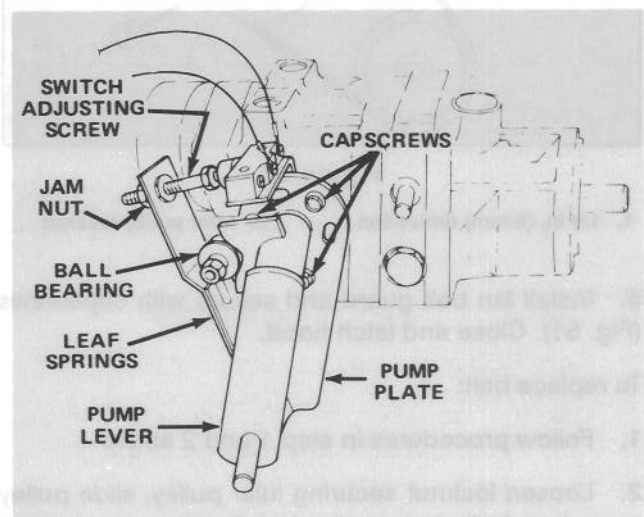

Figure 55
1. Park vehicle on a level surface and turn engine off. Apply the parking brake, tip seat forward, and actuate pump lever (Fig. 55) to insure assembly is properly seated and operating freely. Correct any discrepancy.
6. Because the wheel is rotating, the pump plate must be adjusted. But before adjusting the pump plate, move throttle to SLOW. If wheel is rotating forward, loosen capscrews, and lightly tap bottom of pump plate counterclockwise (Fig. 55). By contrast, tap pump plate clockwise if wheel is rotating backward (Fig. 55). When wheel stops rotating, tighten capscrews holding pump plate against side of transmission. Verify the adjustment with throttle in SLOW and FAST position.
- A. Ball bearing is loose or worn out (Fig. 55).
F. Weak or damaged leaf springs (Fig. 55).
2. Actuate the pump lever (Fig. 55) to insure all parts are operating freely and seated properly.
3. Loosen jam nut. Rotate switch adjusting screw (Fig. 55) until there is a gap between head of screw and switch button.